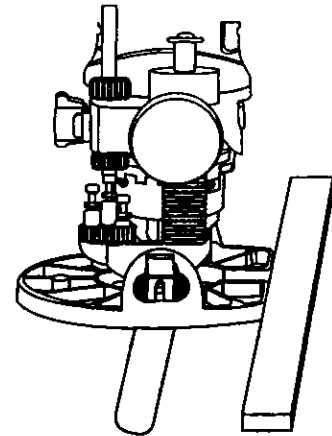

Fig. 20
- 1 Draw a line on the workpiece where you wish to make the cut (see Fig. 20).